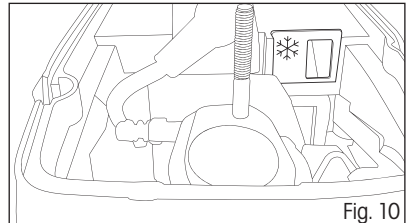

Fig. 10
- ✿ Set the flap located behind the air filter to the winter position, see fig. 10. The winter position symbol „Snowflake“ must be visible. Thanks to this setting, cold air is drawn in together with the warm air from around the cylinder and therefore ice does not form in the carburettor.